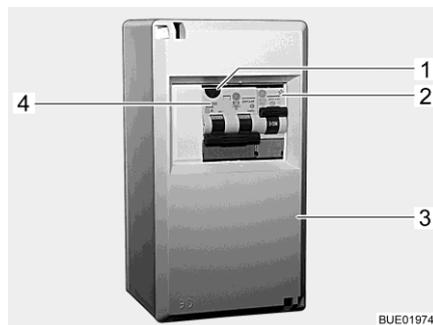

Fig. 200 230 V fuse box
A combined fault current protection switch / safety cut-out (Fig. 200,4) in the fuse box (Fig. 200,3) protects the complete vehicle from fault current (0.03 A).
For vehicles with special equipment (e.g. air conditioning unit) an additional safety cut-out (10 A) (Fig. 200,2) secures the device.
- When the vehicle is connected to the 230 V power supply, press the test button (Fig. 200,1). The fault current protection switch must trip.